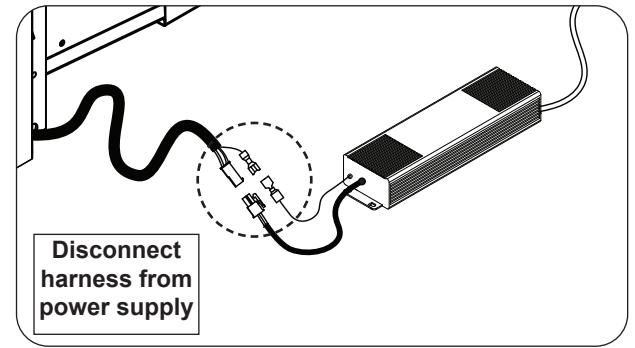

Fig. 28-2 Disconnect harness
1. Locate the harness coming from the grill and disconnect it from the power supply box. See Fig. 28-2.